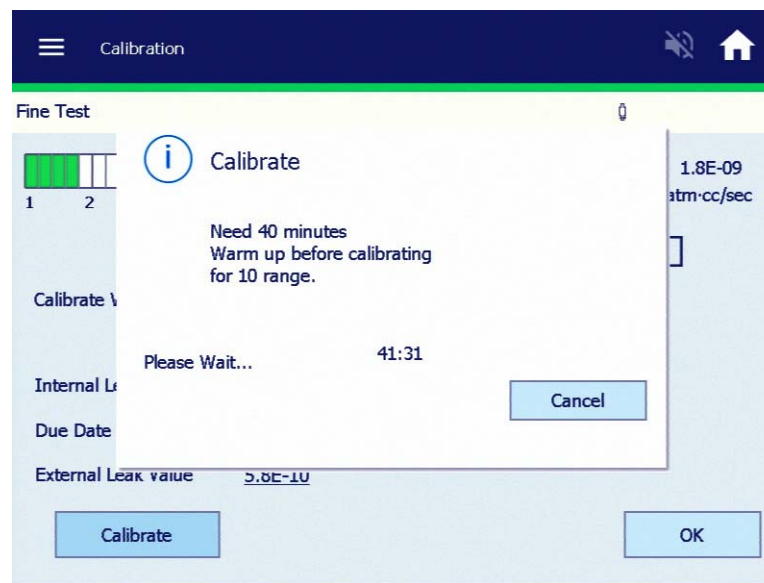

Figure 1-16 Helium Background Timer
- ☐ Background is changing, indicating the system is still pumping away background helium, a countdown timer appears (Figure 1-16). The system monitors the helium